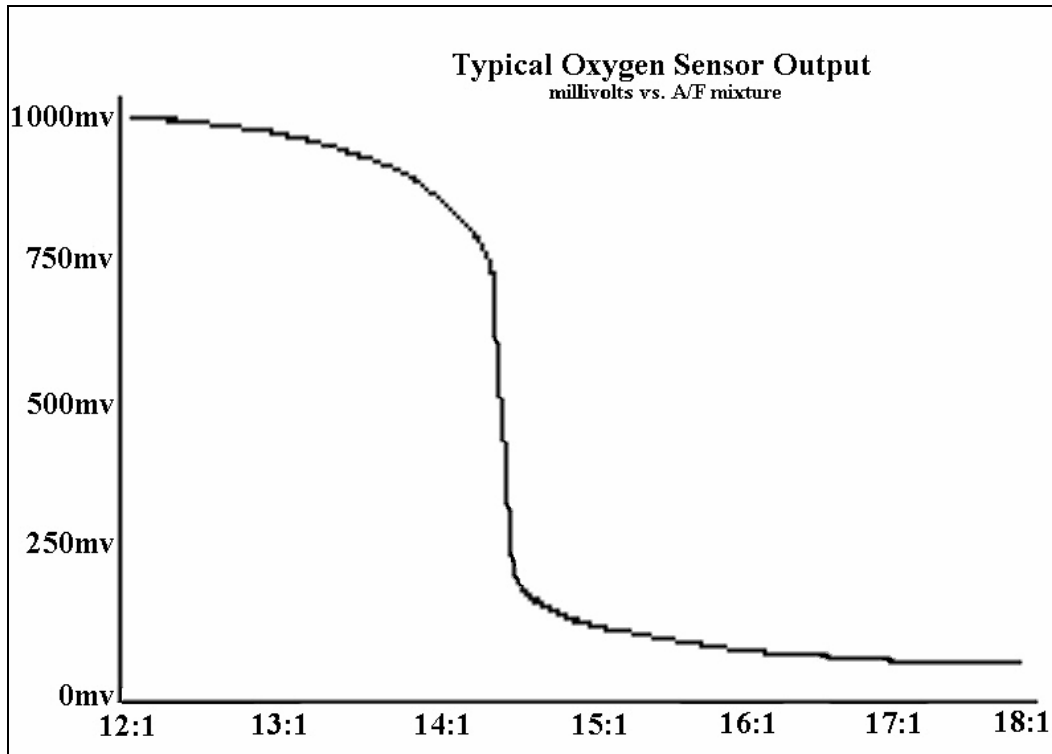

Figure 1 Lambda sensor transfer characteristics
- 1) Air fuel ratio is non-linear versus input voltage (see Figure 1).